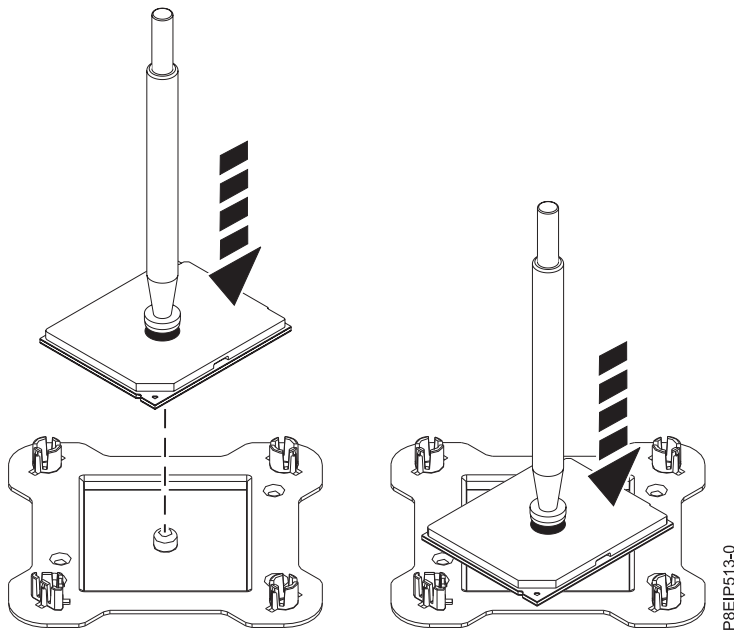

Figure 51. Placing the processor at an angle on the top cover of the packaging
9. Holding the vacuum pen, lift the pen and system processor module from the socket. Place them at an angle on the top cover of the system processor module packaging as shown in Figure 51 on page 50. Setting the system processor module at an angle on the top cover of the system processor module packaging will make it easier to pick up and place in the packaging after you replace the system processor module.